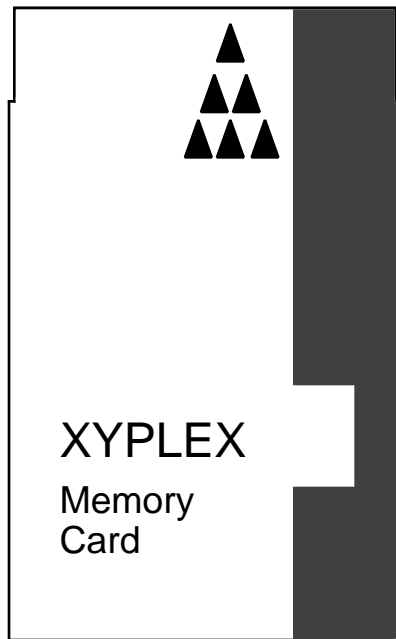
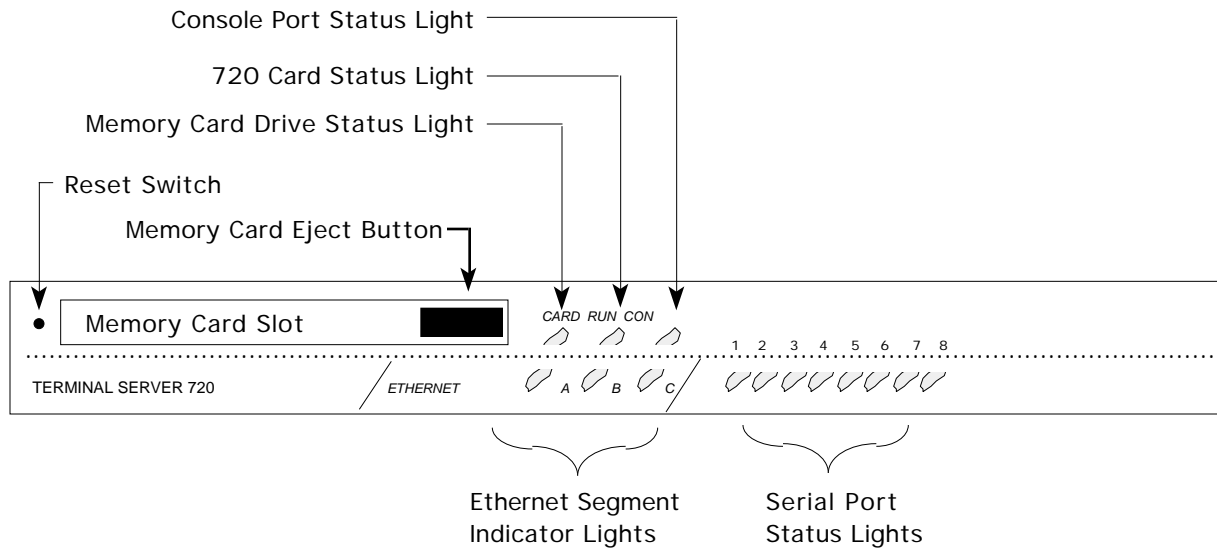

Figure 2-1. Memory Card.
Figure 2-2. Terminal Server 720 Controls.
Markings on the memory card indicate which end you insert into the Terminal Server 720 (insert the end which has two rows of small square holes). You can eject the memory card by pressing the Eject Button. Figure 2-1 shows which end of the memory card to insert into the Memory Card Slot. Figure 2-2 shows the location of the Memory Card Slot and Eject Button.
The serial port status lights shown in Figure 2-2 are used in several ways. During the initialization process, the lights indicate that self-tests are being performed, and if any self-test fails, they indicate an error code. After the unit has been received a load image and parameters, the lights indicate when a port is actively being used. In this case, each light can indicate activity for more than one port. For example, if LED 1 is lit, this can indicate that there is activity on ports 1, 9, or 17. LED 2 indicates activity on ports 2, 10, or 18, etc.¹
2. Look for the small hole to the left of the Memory Card Slot (see Figure 2-2).
4. Press the RESET switch again. The terminal server performs a self test of its circuitry, which takes about 20 seconds. Check the lights on the front panel (see Figure 2-2) while the test is under way.
An Ethernet (A, B, or C) LED on the front panel (see Figure 2-2) illuminates as soon as the terminal server detects network activity (normally about 2 seconds). Within 15 seconds the unit transmits software load requests on the network or begins to load from the memory card.